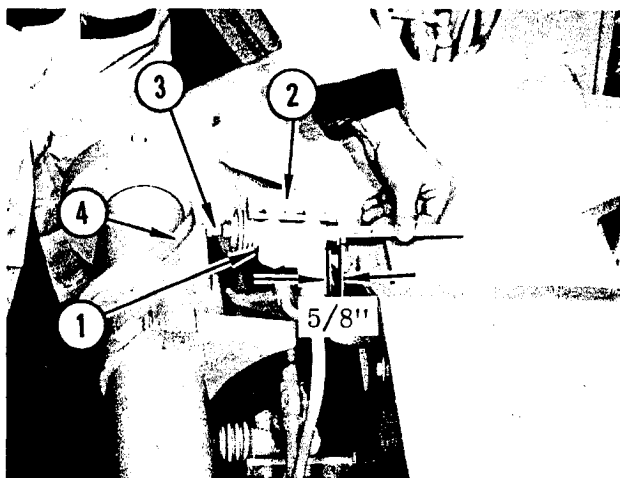

FIGURE 10. LIMIT VALVE ADJUSTMENT
Refer to Figure 10. Start engine and, using blade lift controls, rotate blade lift until lift arm is against stop on main frame. Mount limit valve (1) on angle clip (2) with valve retaining capscrews located in center position of slots in angle. Loosen locknut on adjusting screw (3). Turn adjusting screw until 1/2" or 3/4" of threads on adjusting screw have been turned into valve spool. Tighten locknut. Rotate actuator arm (4) against adjusting screw until valve spool extends 5/8" past end of housing. Tighten clamp bolts on actuator arm.